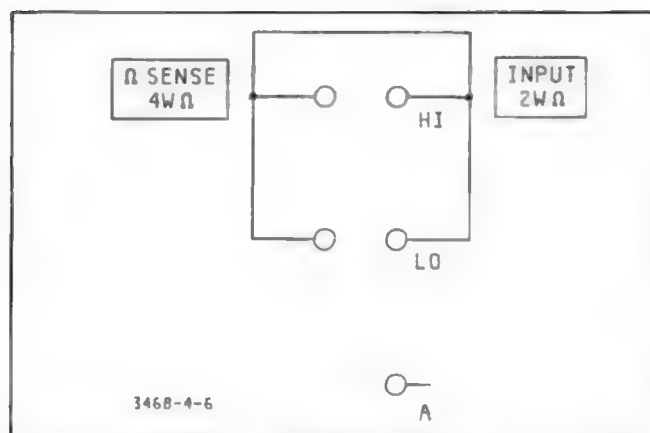

Figure 4-9. 4-Wire Ohms Short
6) If the 4-Wire ohms function is to be tested, shorting the INPUT terminals requires that both the sense and input terminals be shorted as shown in Figure 4-9.
both the input terminals and the sense terminals as shown in Figure 4-9). Record the reading. Ensure the reading is within the limits shown on the Test Card and in Table 4-7.